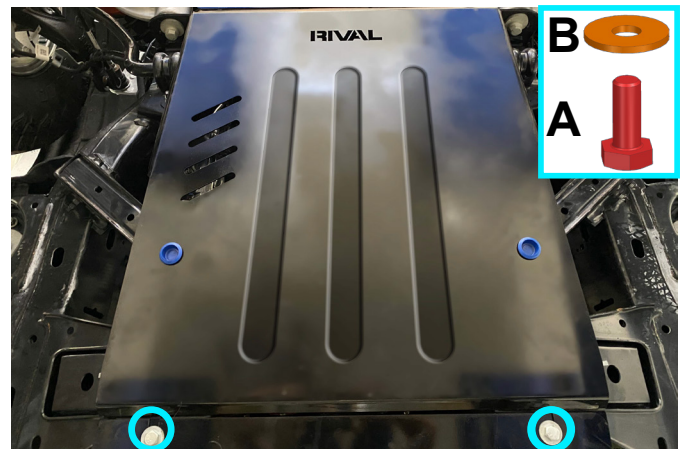

Fig. 4
4. Fix the rear part of gearbox skid plate (item 1) to insert nut M10 (item D) using bolts M10x25 (item A) and washers 10 (item B), as shown in fig.4.